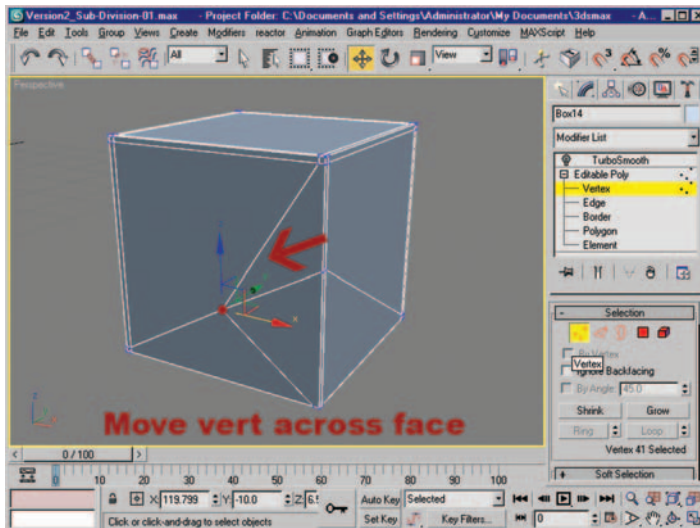

Figure 6.18 Vert moved along edge using Edge Constraints.
4. Select either of the side vertices from the group you just moved (one at a time), and move it approximately halfway across the face it is laying on (Figure 6.18).